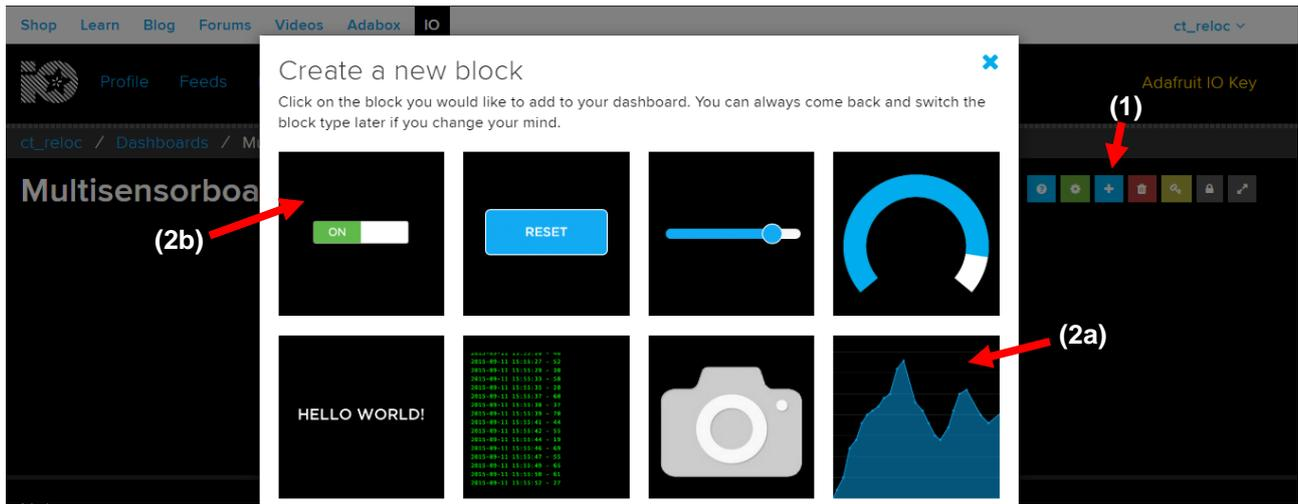
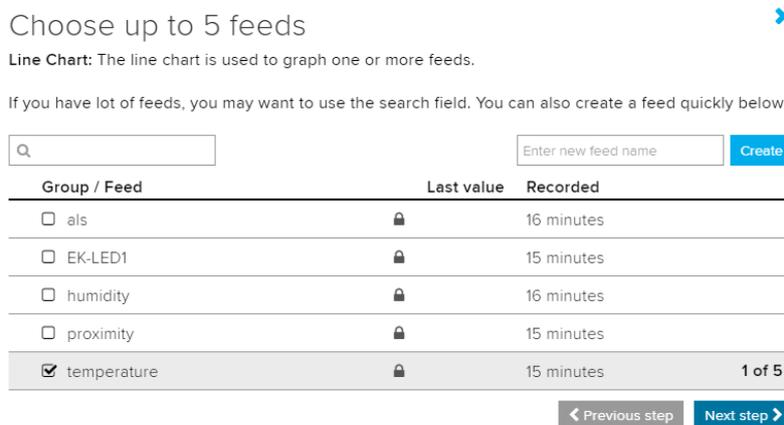
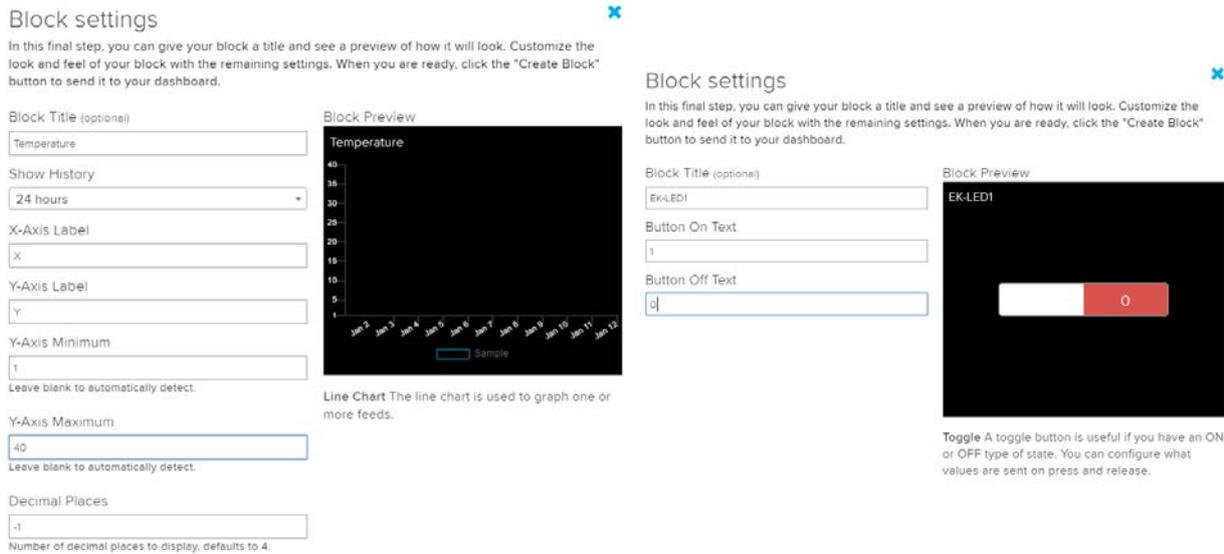

Figure 11: Create a new Line Chart in the Dashboard.
Figure 12: Select the Feed to display on the Line Chart.
Figure 14: Line Chart and Toggle Button settings.
- a. Create 4 Line Graphs linked to the first 4 feeds created above (Figure 11, Figure 12 and Figure 14).
- b. Create a Toggle Button linked to the EK-LED1 feed and configure it as shown in Figure 14.